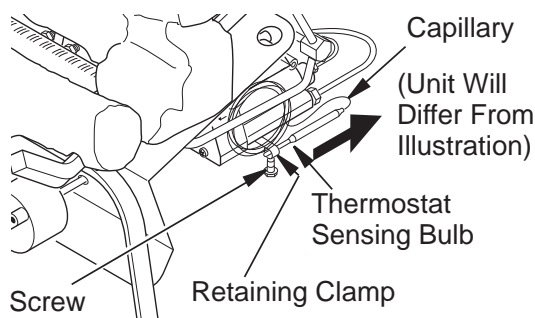

Figure 51 - Removing Thermostat Sensing Bulb
2. With 5/16" hex driver or socket, loosen the thermostat screw. Carefully slide the thermostat sensing bulb out of the retaining clamp (see **Figure 51**).